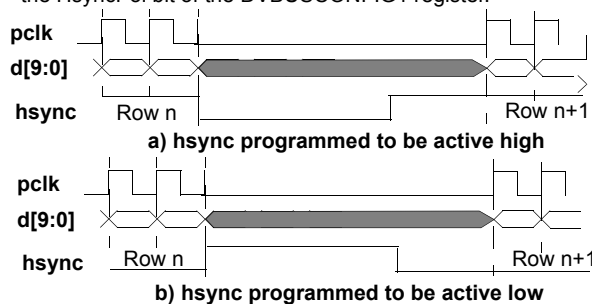

Figure 45. *hsync* in Pulse Mode
- **Pulse mode** should be used when the pixel clock, *pclk*, is programmed to operate in *data ready mode*. In pulse mode the *hsync* output pin will produce a pulse at the end of each row. The width of the pulse will be a minimum of four *pclk* cycles and its polarity can be programmed as shown in Figure 45. The *hsync* level is always synchronized to the active edge of *pclk*. The *hsync* pin is put into pulse mode by setting the *HsyncMode* bit of the *DVBUSCONFIG1* register to a logic 1. The active level of the *hsync* pulse is programmed using the *HsyncPol* bit of the *DVBUSCONFIG1* register.